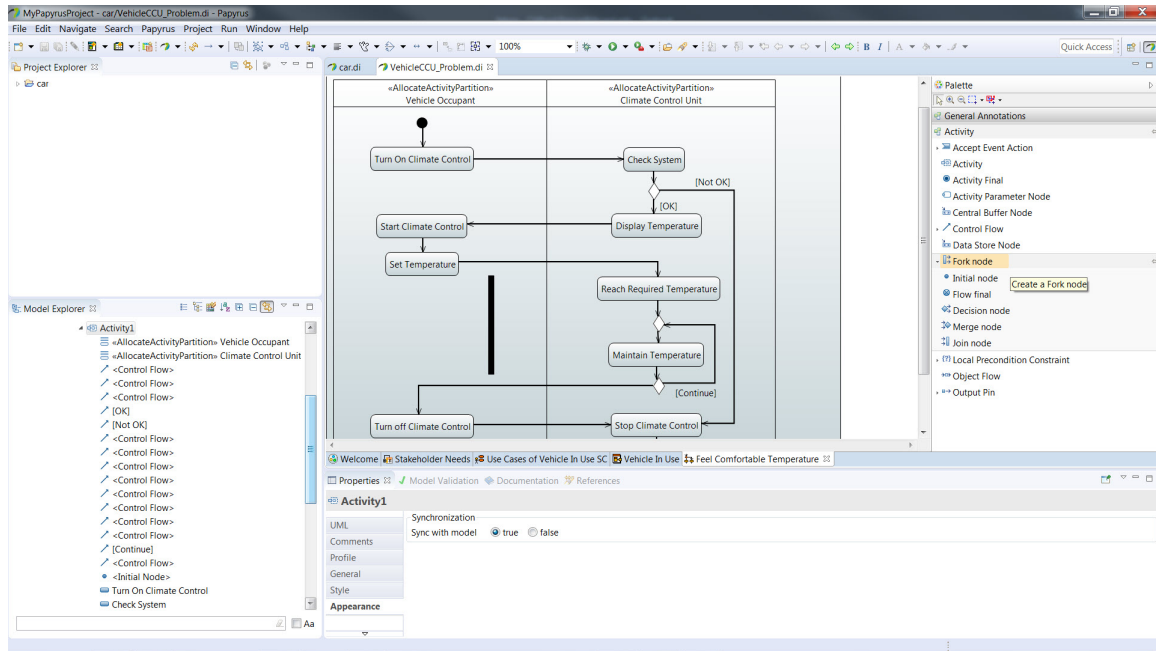

Figure 57: Create Fork Node
26. Now we have the actions and the control flow in our activity diagram but we need to pass some data as well. The required temperature should be an output from the *Set Temperature* action and this is provided as an input to both the *Reach Required Temperature* action and the *Maintain Temperature* action. In this way the system knows the desired temperature that it is to reach and maintain once it is set by the user. First create a fork node by Clicking on **Fork node** from the *Activity* palette and then Click in the space underneath the *Set Temperature* action. Size the fork as shown in (figure 57).